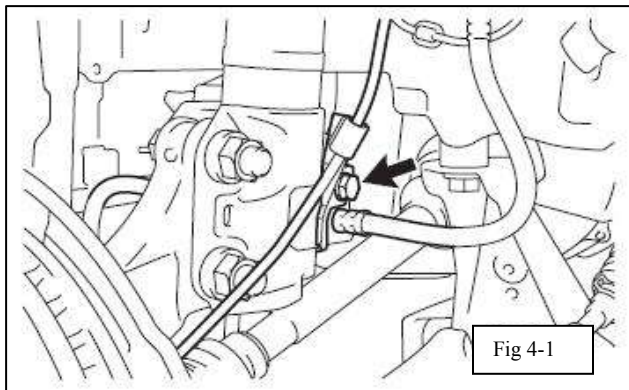

Fig 4-1
- (c) Attach front flexible brake hose and speed sensor if equipped. (Fig 4-1)
- (1) Install the flexible hose and speed sensor without twisting them.